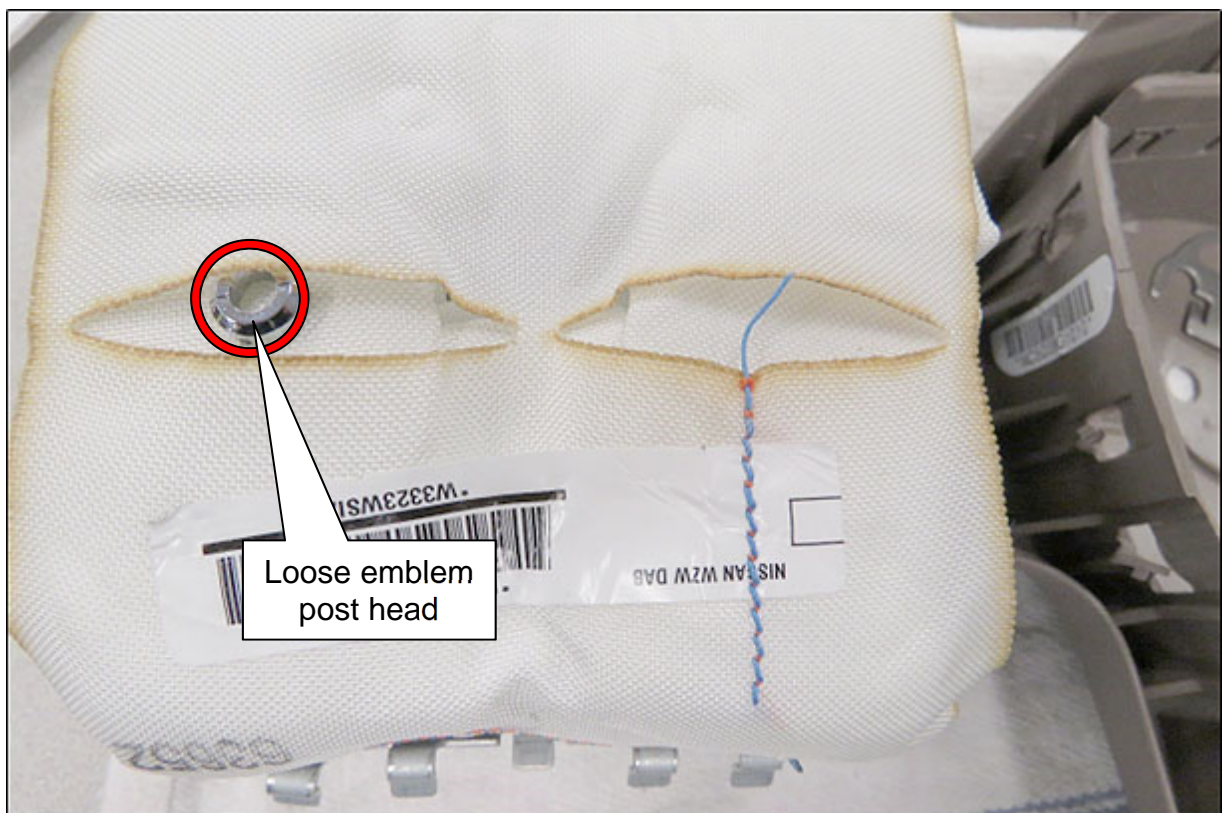

Figure 21
20. Locate the Air Bag Cover emblem's metal clip and post heads shown in Figure 19, and if found to be loose (Figure 20 and Figure 21) remove all loose components.